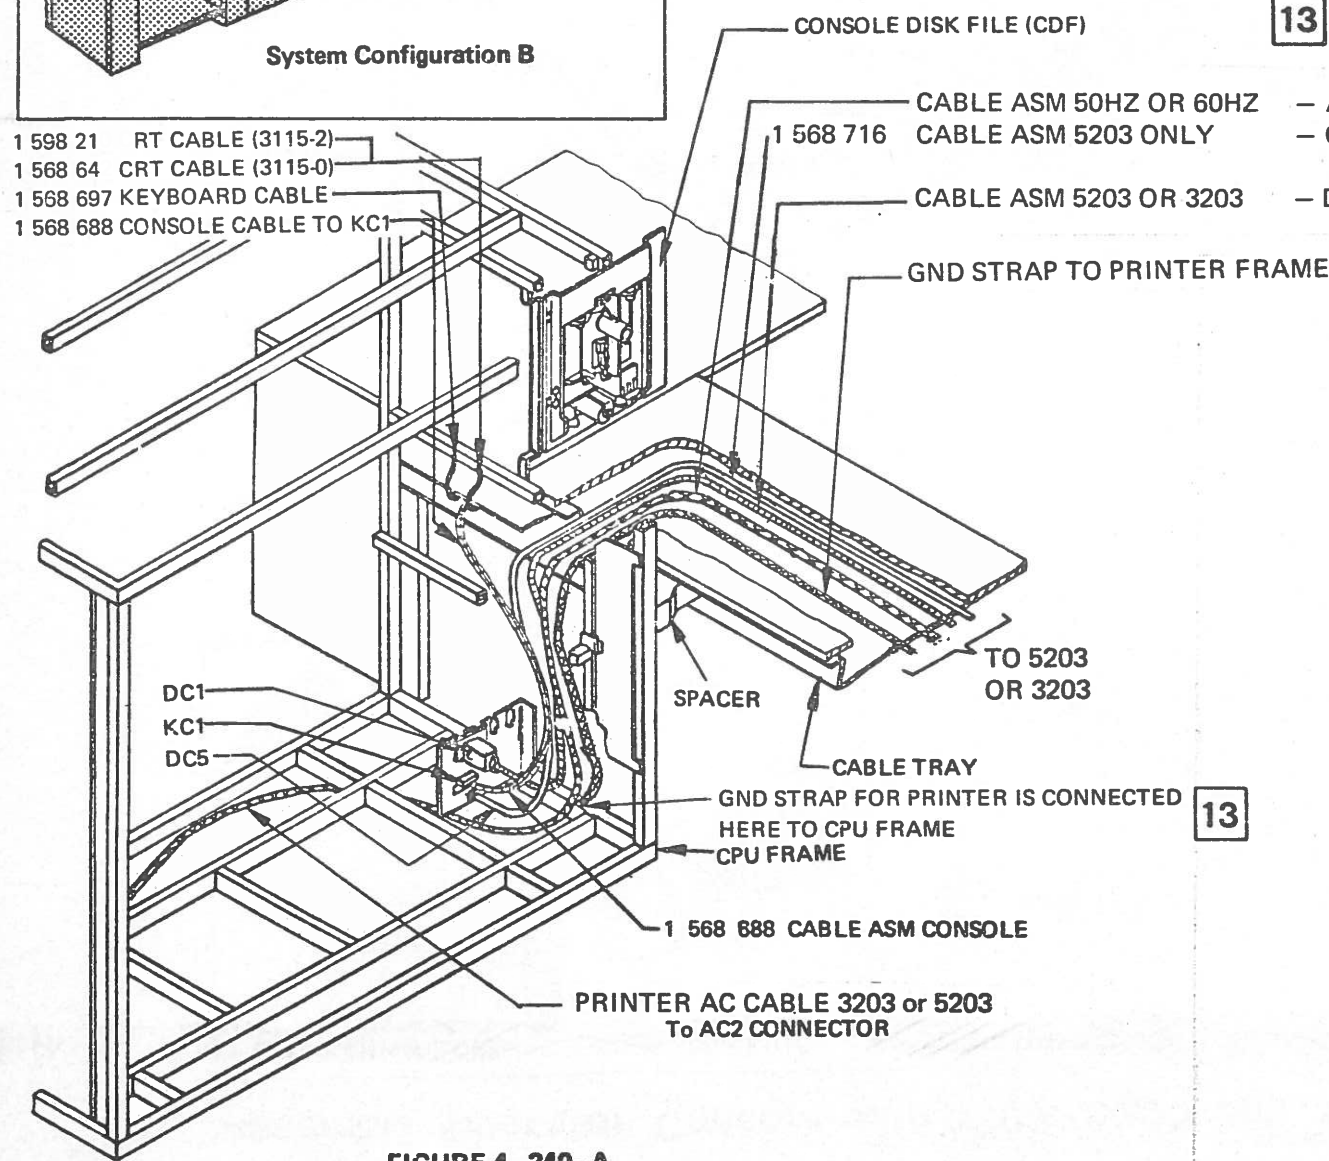

FIGURE 4-240-A
**12** 5203 only! Route signal cables from 5203 to CPU and insert paddle cards into correct positions as indicated on the labels at the end of the cables. (See Figure 4-240-B)
**13** Route ac and dc cables of the printer to their ac and dc connectors and connect Gnd strap from CPU frame (see Figure 4-240-A) to printer frame. At 3203 printer the upper left mounting point of the power supply is used for Gnd strap connection. In Figure 4-240-A the cable routing for the 5203 or 3203 printer is shown.